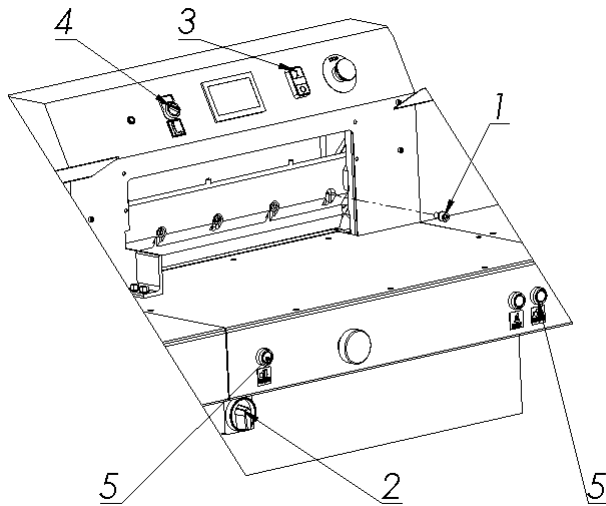

Figure.22
8.1.1.5 Unscrew and remove the first fastening screw 1 from the right side of the cutter bar (Fig. 22).
8.1.1.6 Switch on the power supply of the electrical system by turning the main switch knob 2 (fig.22) to position "I"
8.1.1.8 On the program screen 4 (fig.22), deactivate the "knife change" function
8.1.2.8 Press the "Change knife" function on the programmer 3 (Fig.22)
8.1.2.21 Switch on the power supply to the control system by pressing the green push button 3 (fig.22).